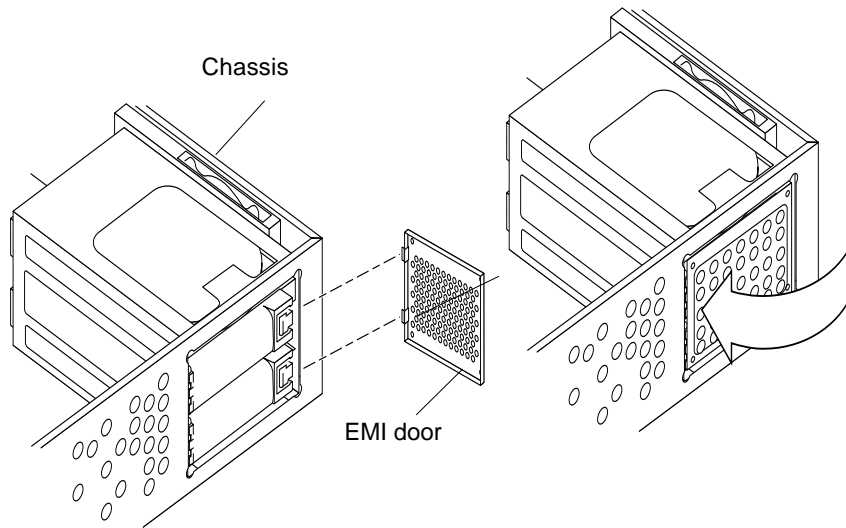

FIGURE 9-4 Replacing the EMI Door
3. Replace the EMI door as follows (FIGURE 9-4):